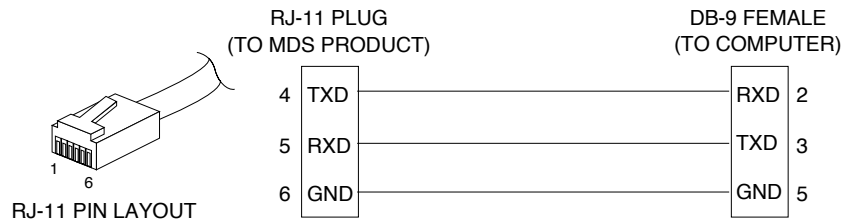

Figure 3-5. Serial Communications Cable (RJ-11 to DB-9)
1. Connect a serial communications cable between the PC and the unit’s COM 1 port. If necessary, a cable may be constructed for this purpose as shown in Figure 3-5.